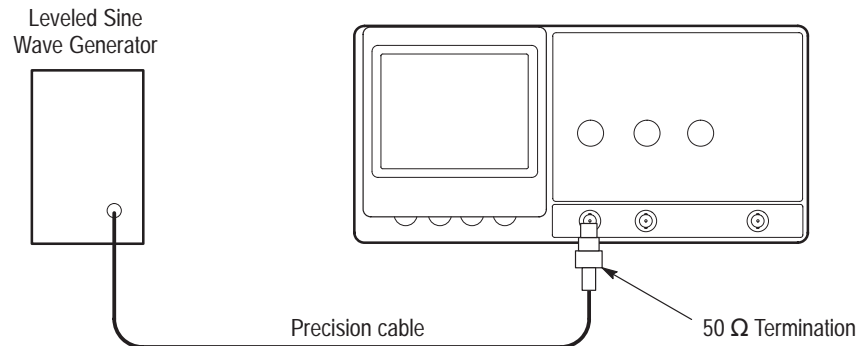

Figure 3: Bandwidth check setup
1. Use the 50 Ω precision coaxial cable to connect the output of the leveled sine wave generator to the 50 Ω termination; then connect the 50 Ω termination to the TAS 200 series oscilloscope CH 1 (CH 2) input. See Figure 3 below.